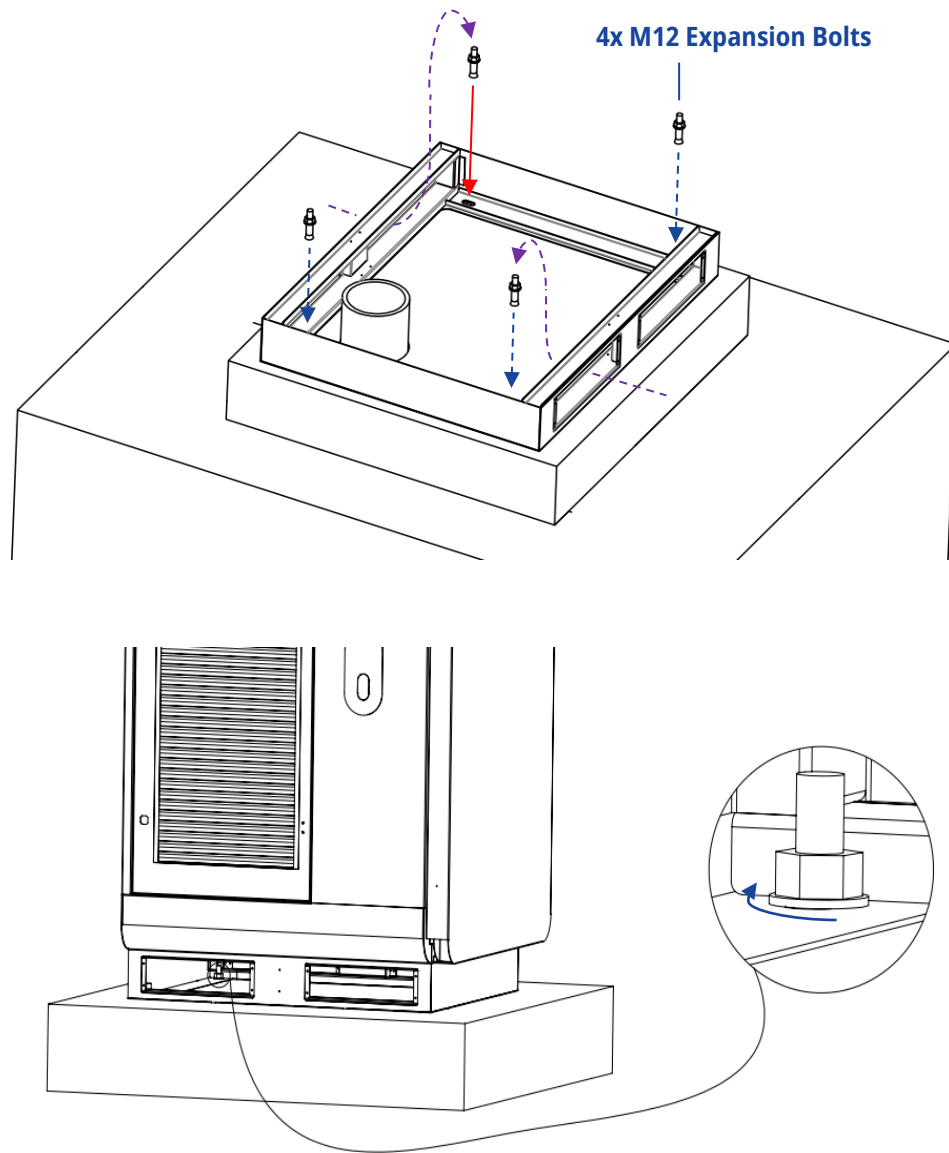

Figure 4.7 Fix the Charger on Top of the Concrete Foundation
- 5) Put the **4 M12 expansion bolts** through holes on the side of the charger's pedestal into the screw holes, then fasten them to fix the charger to the top of the foundation (**Figure 4.7**).
- Note that the screws normally do not have space to be lifted, like shown in **Figure 4.7** above. The graph is showing merely the bolts' relative position to the screw holes).